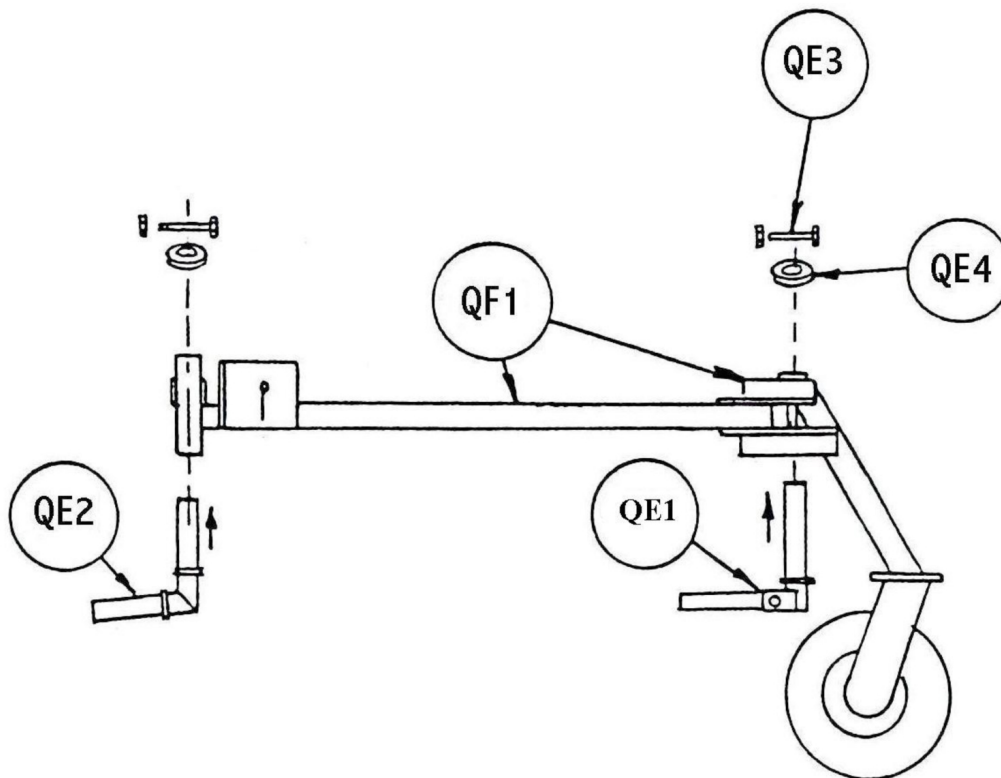

Figure 3: Schematic of attaching elbows, side view
1. Slide one rigid elbow (QE2) up into the collar at the left rear of the frame (see Figure 3)